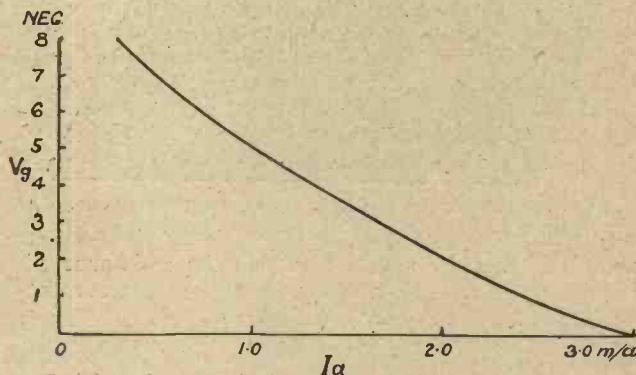
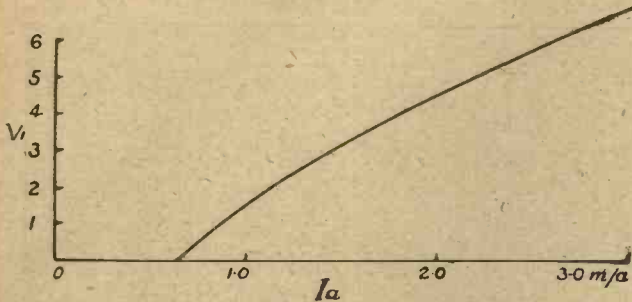

Fig. 2.—The curve obtained by plotting grid volts against anode current.
Fig. 3.—The curve of Fig. 2 reversed, so that v_1 can be read off direct for different values of anode current.
for various values of v_1 , which we assume conveniently according to our V_g/I_a curve. (Fig. 2.)
We obtain different values of r_1 corresponding to various values of v_1 . Now from Fig. 3 we can read off the plate current I_a for these varying values of v_1 , and so we shall now have a set of readings for I_a corresponding to various values of r_1 . These can then be used to plot a fresh curve. Such a curve is
Let us illustrate this by a practical example. Fig. 2 shows a V_g/I_a curve obtained with a given plate voltage up to a maximum negative grid bias of 8 volts. Actually it is intended to work from 6 volts. Let us reverse this curve as in Fig. 3 (taking -6 volts as our zero), so that the plate current reading will give us v_1 direct; for if we start with an initial negative bias of 6 volts which is then opposed by a voltage of 1.5 (i.e., v_1) across the resistance r_1 , then the plate current reading will give us a grid voltage of
-4.5 from the Fig. 2 curve. This has now to be subtracted from 6 to give us v_1 . Thus, by reversing the curve, this will be read off direct.
So that, by assuming different values for v_1 , we get different values for r_1 . If $v_1=2$, then $r_1=1.05$; but when $v_1=2$, we find from Fig. 3 that $I_a=1.22$, and so we plot $r_1=1.05$, $I_a=1.22$ on a fresh curve. When $v_1=3$, then $r_1=2.1$ and $I_a=1.5$, and we get another point. We finally obtain the curve shown in Fig. 4.
Having decided this point, the next thing is to obtain the V_g/I_a curve. To do this, connect the two terminals T_1 , T_2 together, the H.T. and L.T. batteries to the valve, and an 8-volt battery to the terminals G.B. + and G.B. -. A high-resistance voltmeter is connected across the two terminals Grid V, and a milliammeter across the two terminals provided. This gives us the circuit shown in Fig. 6. A curve may now be plotted showing the variations of anode current against grid voltage. A curve of this description is that shown in Fig. 2.
Now reverse the grid volt-anode current curve, taking the point which corresponds to the 6-volt negative as the new zero point; then the -5 point will become +1, -4 = +2, and so on. This will give us the Fig. 3 curve, and will enable us to read the voltage v_1 across the unknown resistance, r_1 , directly from the value of plate current given by the milliammeter in the plate circuit.